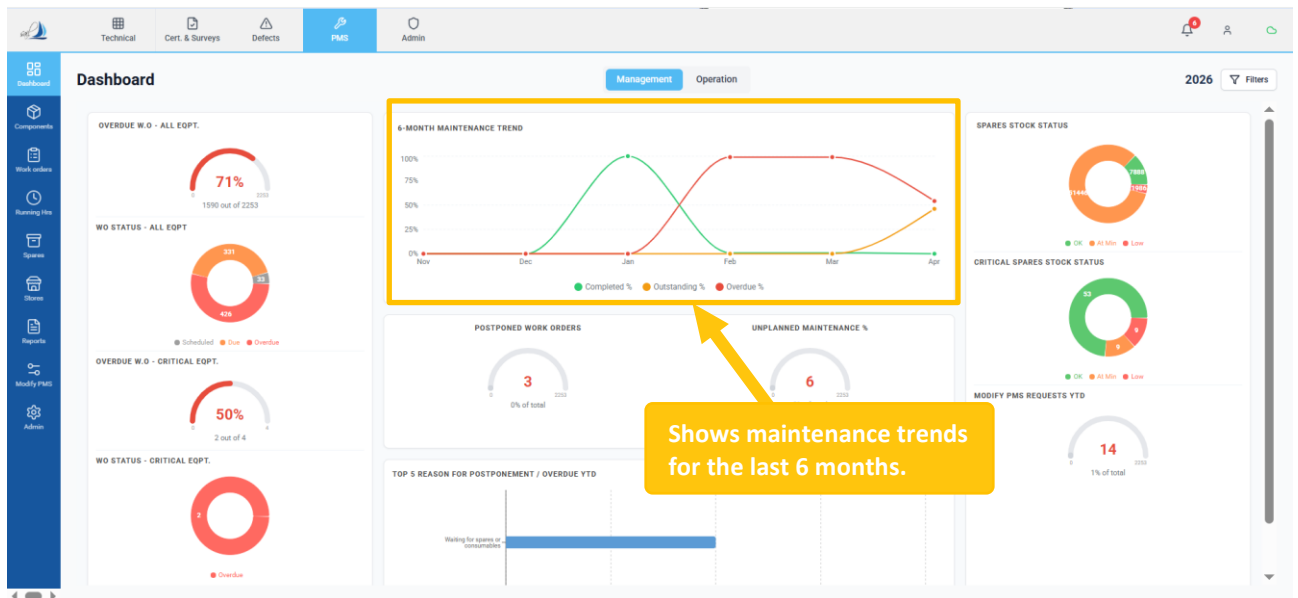

Figure 5
- This section provides a visual representation of maintenance performance trends over the last six months. (Ref Figure 5)